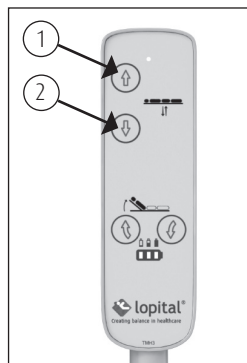

Figure 4 Hand control.
- The stretcher is moved upwards by pressing the control button with the arrow pointing upwards. The stretcher will then move upwards evenly (1) (See figure 4).
- Move the stretcher downwards by pressing the button that shows a 'down' arrow the stretcher will immediately move downwards (2) (See figure 4).